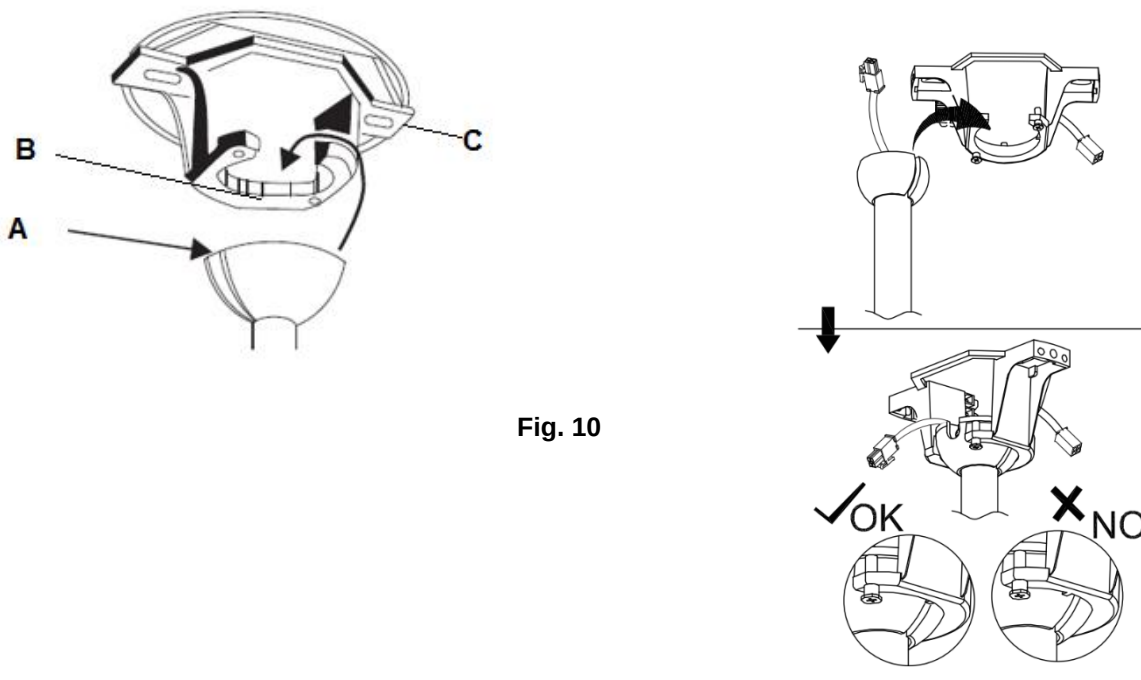

Fig. 10
Lift the fan assembly onto the mounting bracket. Ensure the key slot (A) of the hanger ball is positioned on the key pin (B) of the mounting bracket (C) to prevent the fan from rotating when in operation. (Fig. 10)